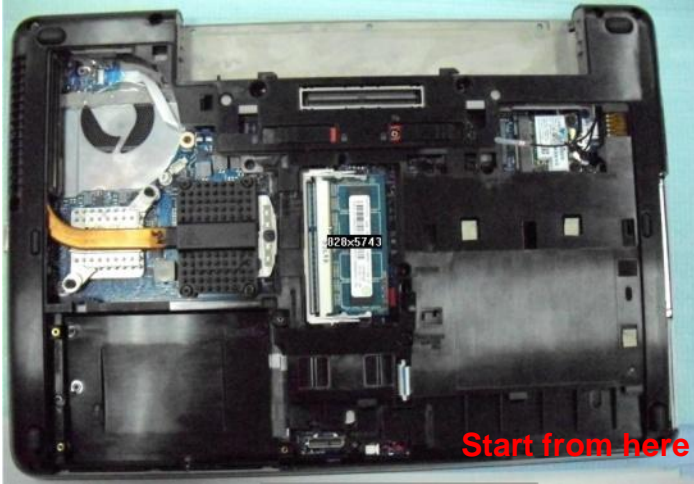

Fig.1
1. Separate BTCB from TPCB (Fig. 1) .